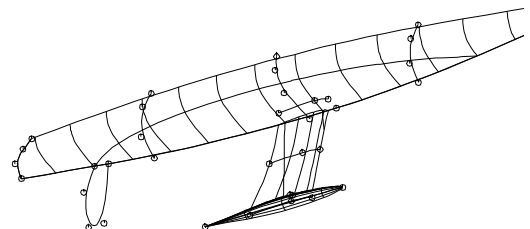

Fig. 15
- 1 **Open BKRY0** (Fig. 15). Here 'hull' is a B-spline Lofted Surface with five B-spline Curve control curves. 'bulb' is a 180-degree revolution surface, using a Type-4 foil curve as its meridian.